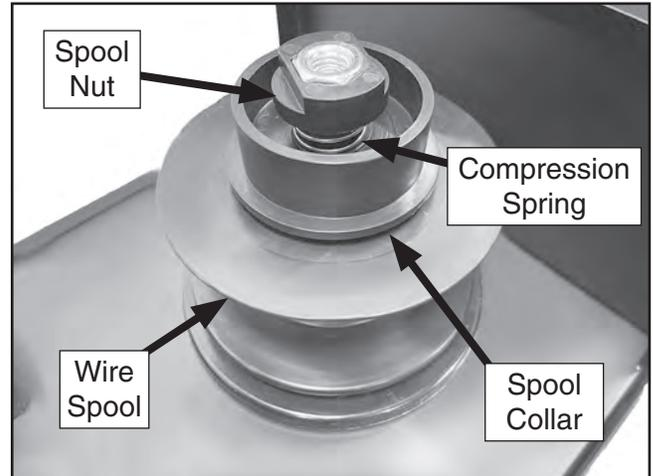

Figure 11. Wire spool installed.
4. Secure wire spool using spool collar, compression spring, and spool nut (see **Figure 11**). Wire spool should have some resistance but rotate freely.